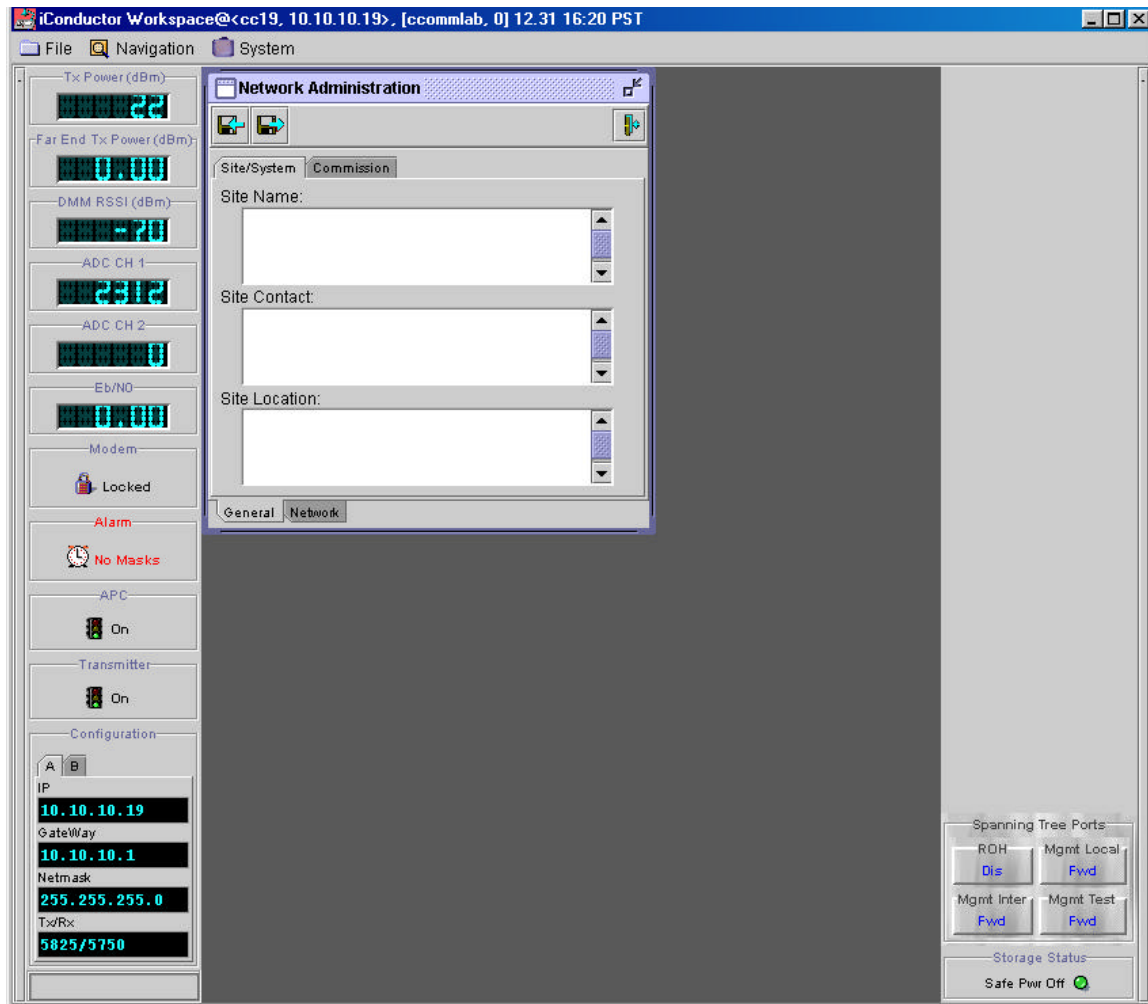

Figure 3-21. Network Administration Window (General Tab) Insert
1. In the iConductor™ Workspace window, select **Navigation > Administration > Network** to display the Network Administration window (see Figure 3-21).